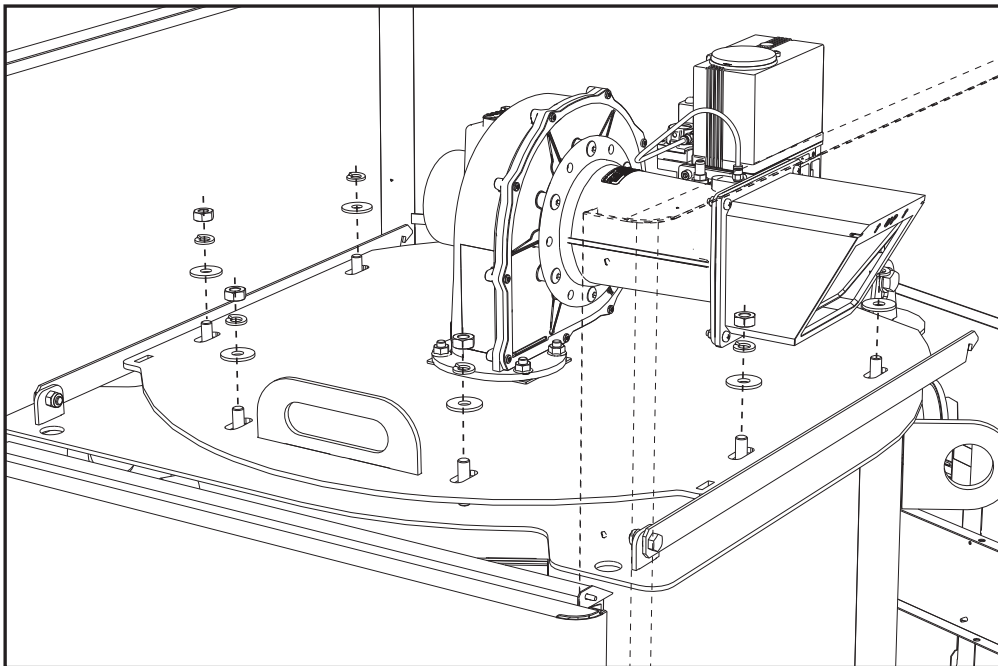

fig. 70
- Remove the nuts and washers (fig. 70).